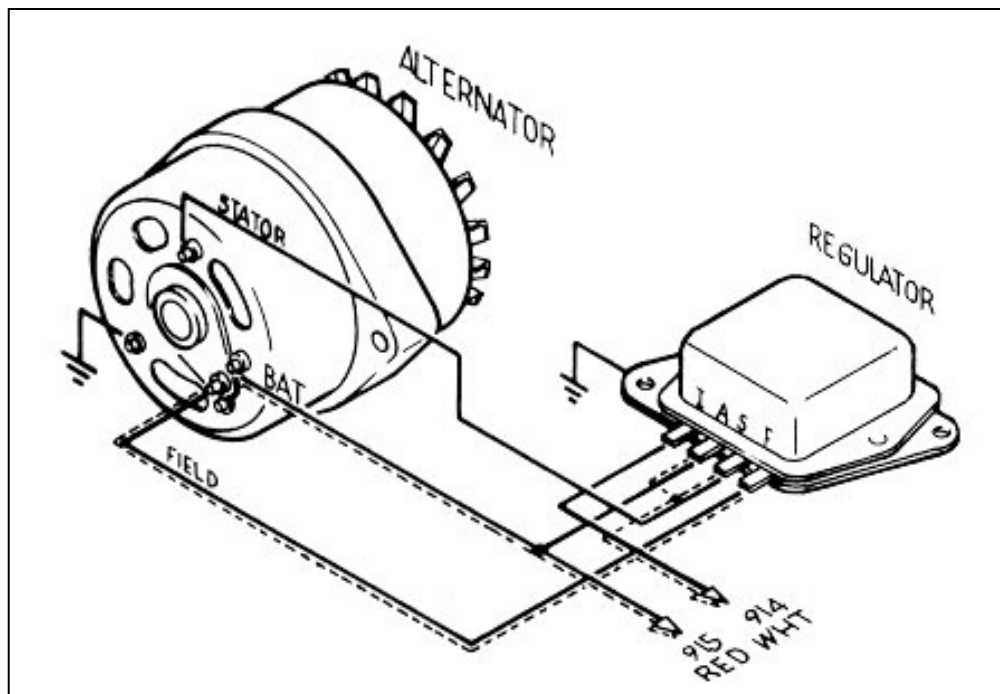

Figure 3-1A Ford Alternator (2 configurations)
- 3.1.5** An alternate (and less-used) method is to omit the Alternator Stator wire, install a 14-gauge jumper across Voltage Regulator terminals A & S, and connect wire #914 to either the A or S terminal of the Voltage Regulator. The FIELD wire and wire #915 are connected as above. Do **NOT** install a jumper as in **Paragraph 3.1.2**. The Voltage Regulator Ignition (I) terminal is not connected. Install ground wires as in **Paragraph 3.1.4**. This alternate configuration is illustrated in dashed lines in **Figure 3-1A**.